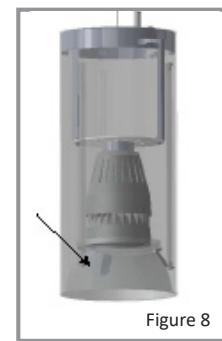

Figure 8
- Insert reflector/trim into bottom of cylinder by gently applying pressure until it snaps into place, automatically securing itself with spring clips and aligning itself with the Xm module. (Figure 8)